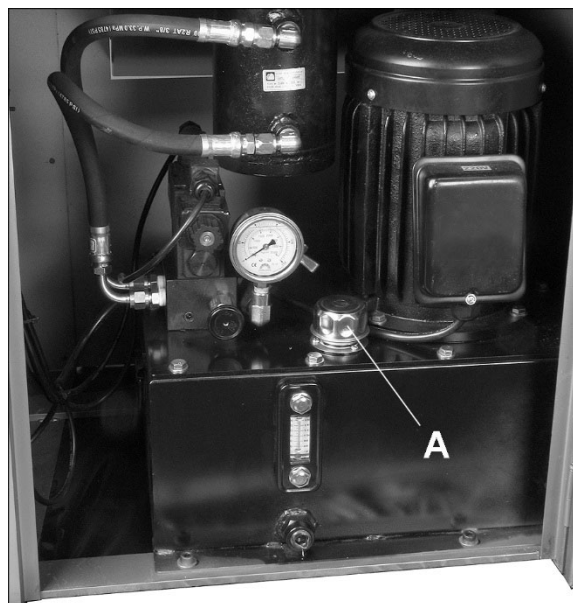

Figure 7-1: hydraulic oil requirement
1. Open front door and unscrew filler cap (A, Figure 7-1).